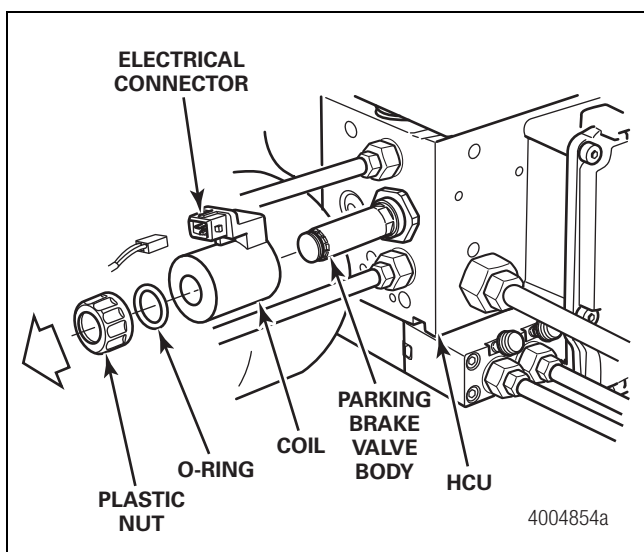

Figure 4.55
9. Unscrew the black plastic nut by hand from the pressure supply valve. Remove the coil and O-ring. Figure 4.55.